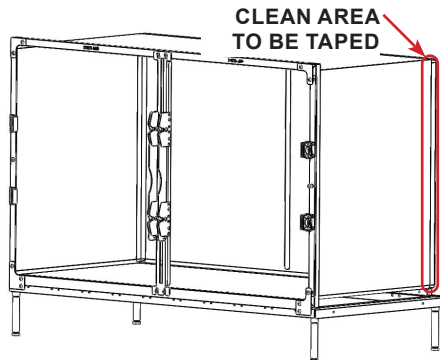

FIGURE 2.55 - Cage Surface Prep
**STEP 4:** Thoroughly clean the cage with alcohol wipes to remove grease, oil and dirt. The two-sided tape will not adhere to surfaces if not clean and clear of dirt and oils. Refer to "Use and Care" section for safe cleaning recommendations. See FIGURE 2.55